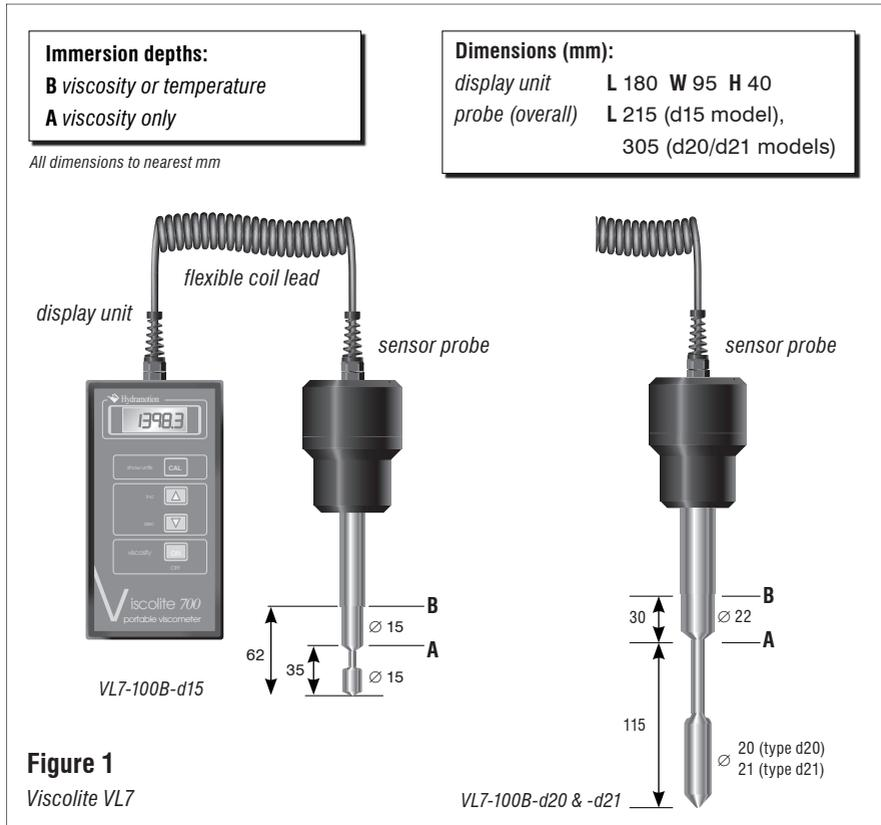

Figure 1
- (1) the temperature of the fluid is significantly different from that at which the reference measurement was made, or
- (2) the sensor is not immersed to the depths shown in Figures 1 and 5, or
- (3) the fluid is non-Newtonian and the reference measurement was made using a significantly different shear rate*, or
- (4) the fluid density is significantly higher or lower than the nominal factory setting of 1.0 g/cm³. In this case, enter the correct density value using the procedure described in Section 4.8 (p. 24).